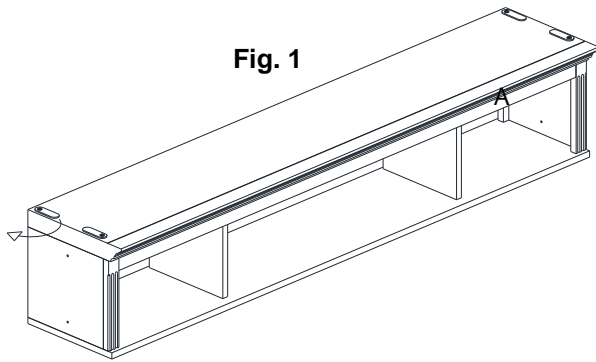

Fig. 1
1. Turn out the mending plates on the top of Quadruple Bridge (A) by loosen the allen bolts pre-attached on its mending plates with the Allen Key (E) as shown in **fig. 1, illustration. 1**.
2. Re-tighten with the Allen Key (E).